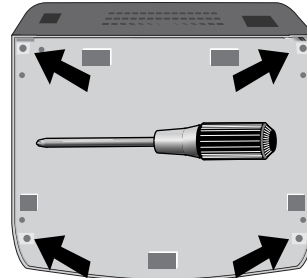

Figure AC.3
4. Remove the 4 screws on the bottom of the stand and lift bottom panel (Figure AC.3).